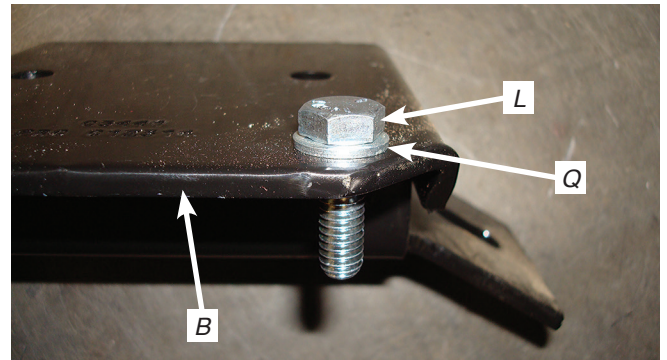

Fig. 8
- In the corner hole of one of the lower brackets (B), insert a 5/16" bolt (L) and flat washer (Q) from the top down (Fig. 8).